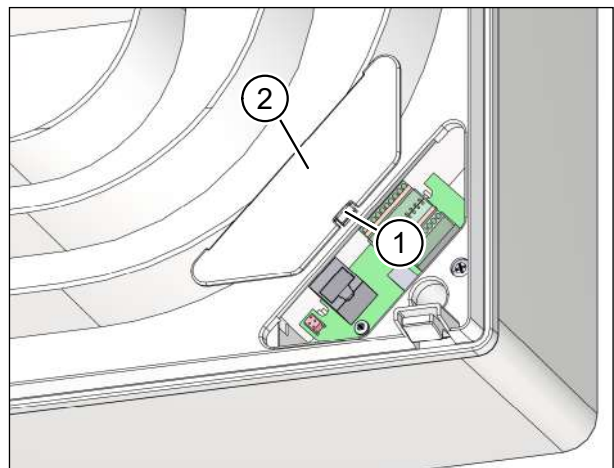

Fig. 23: Removing the network connection cover
- Press the latch (item 1 in Fig. 23) of the network connection cover (item 2 in Fig. 23) gently towards the middle of the unit, and lift up the network connection cover.